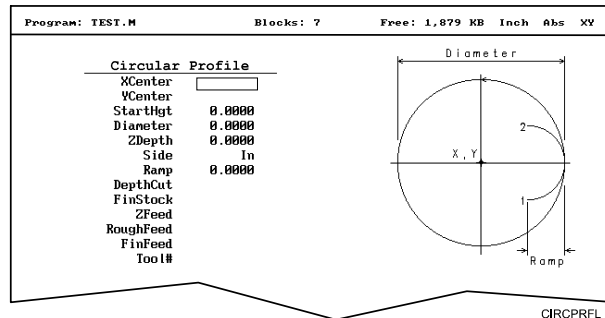

Figure 5-13, CIRCULAR PROFILE Graphic Menu
The Circular Profile Cycle cleans up the inside or outside profile of an existing circle. Refer to **Figure 5-13**.
2. Highlight **Circ.Profile**, and press **ENTER** to display the **CIRCULAR PROFILE** Graphic Menu. Refer to **Figure 5-13, CIRCULAR PROFILE Graphic Menu**.